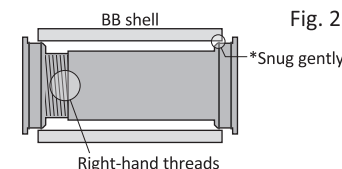

Fig. 2
- ② 左右のカップをBBシェルに挿入し、右回し (正ネジ) に手で軽く締めて仮止めてください。—図2
- ② Insert the left and right cups into the shell and hand-tighten the cups loosely by turning them to the right. —Fig. 2